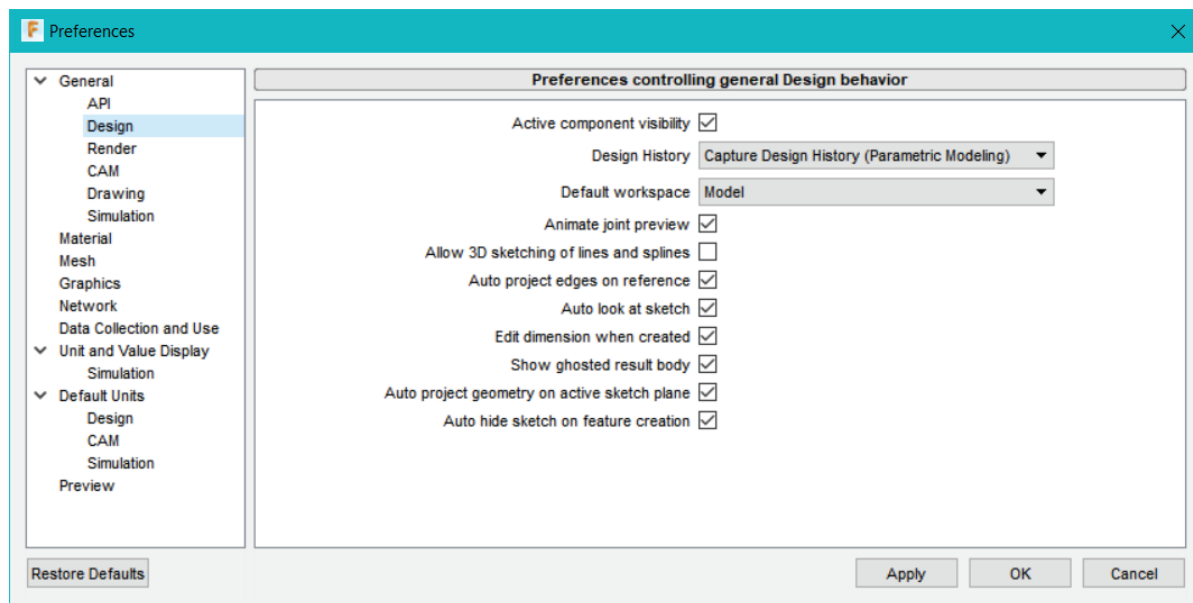

Figure-71. Design page
- Click on the **Design** option under **General** node in the left of the dialog box to set the parameters related to model creation. The options in the dialog box will be displayed as shown in Figure-71.